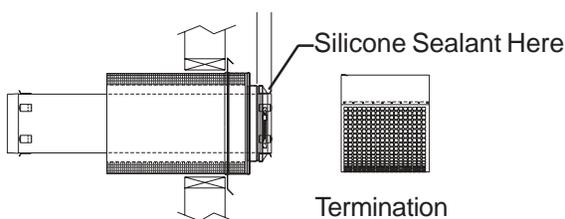

Fig. 16
3. Proceed with the installation of Saf-T Vent sections and terminate it through the Wall Termination Assembly (Fig. 16). Install the End Collar on the last section to close off the 1" air space around the inner vent. Seal between the vent and the End Collar for weather conditions. The assembly is constructed to allow for 2 degrees (1/4" per foot) of pitch in the vent sections. Seal the gap between the vent and the end plate of the Assembly using silicone caulk suitable for extended exposure to the elements.